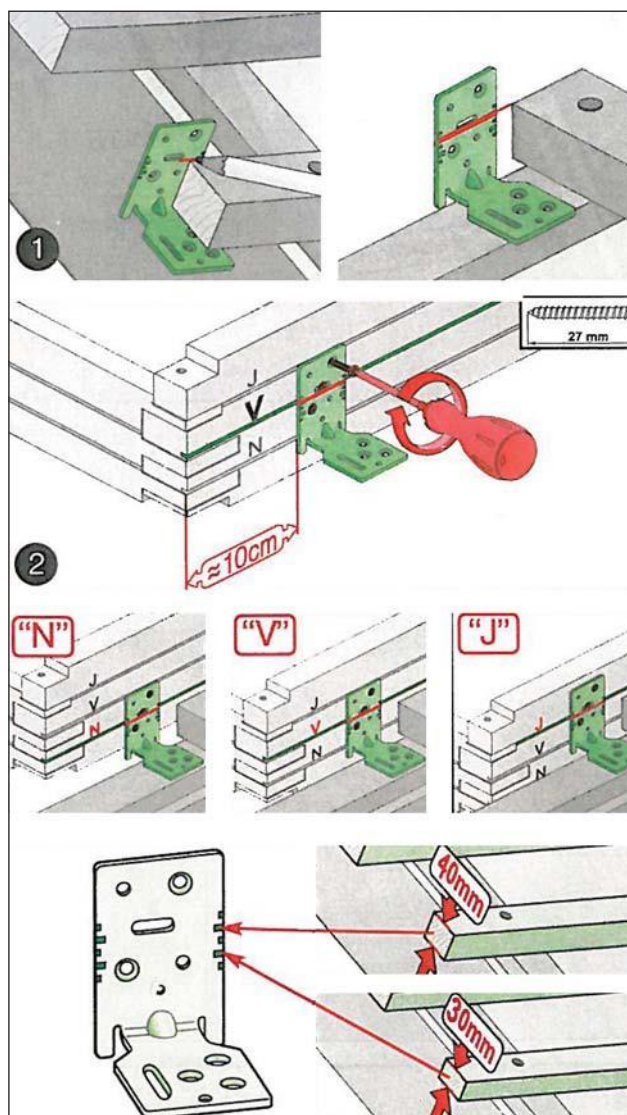

Fig 22
- 25) The top of the batten/purlin lines up with groove marked "N" on the roof window frame (Fig 22).